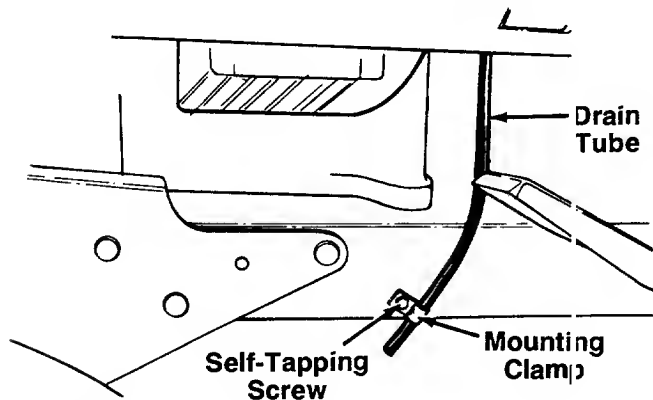

FIGURE 8.
7. Route the battery drain tube over to the **left** side of the tractor. Slip the end of the drain tube into the mounting clamp provided in hardware pack. Secure the mounting clamp to the tractor frame using the self-tapping screw as shown in figure 8.